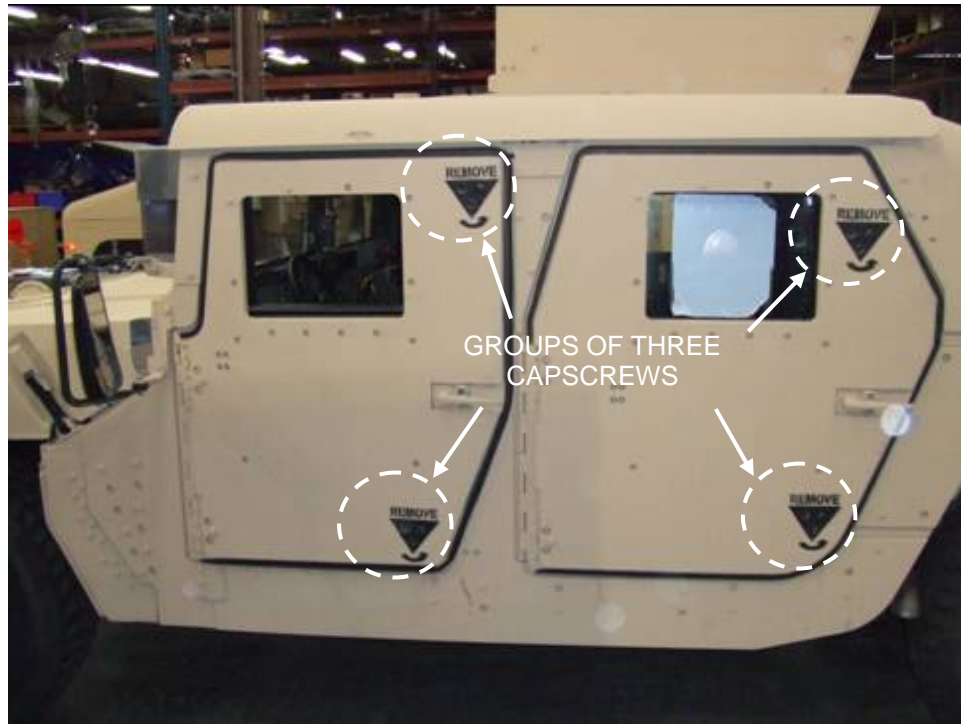

Figure 4
- b) Locate two groups of three capscrews on door. Refer to figure 4